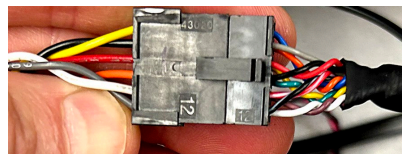

Figure 24
24. Connect the 8076535-coupler harness (see Figure 23) 12-pin connector to 12-pin connector on the controller (see Figure 24).